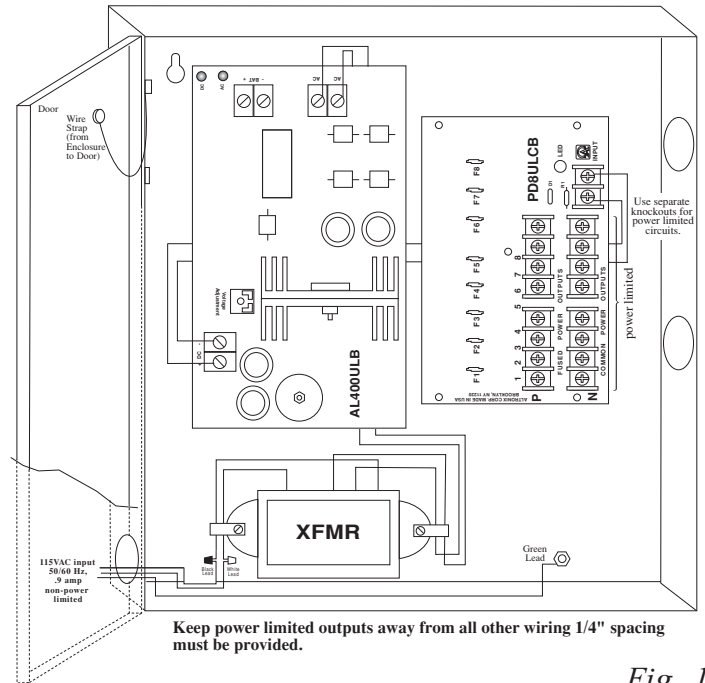

Fig. 1
- Eight (8) individually PTC protected power limited, Class 2 Rated outputs.
- PTC protected outputs are rated @ 2.5 amp (Fig.1).
2. Connect green lead to earth ground. Connect AC (115VAC 50/60 Hz) to the black and white flying leads of the transformer (Fig. 1). Use knockout adjacent to the transformer 1/4" spacing must be provided between AC input wiring and all other circuits.
4. Switch SW1 (Fig. 1) to OFF position.
6. Connect each DC CCTV cameras to terminal pairs marked [1P-1N thru 8P-8N] on PD8 board (Fig. 1) carefully observing correct polarity.
7. Switch SW1 (Fig. 1) to ON position.